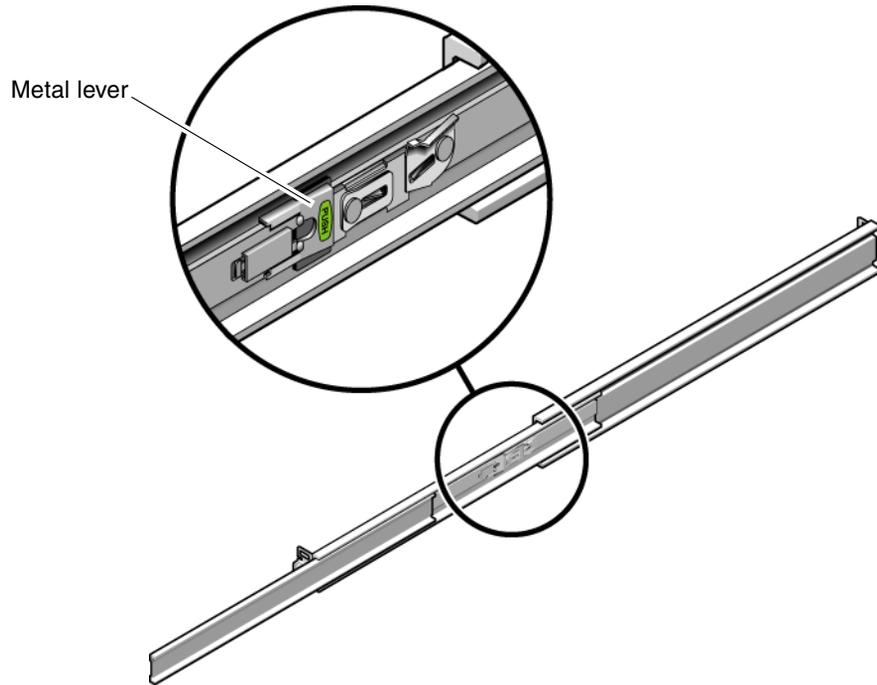

FIGURE 2-24 Unlocking the Slide Rail Lever Stops
5. When the appliance is fully extended, release the slide rail lever stops (FIGURE 2-24).